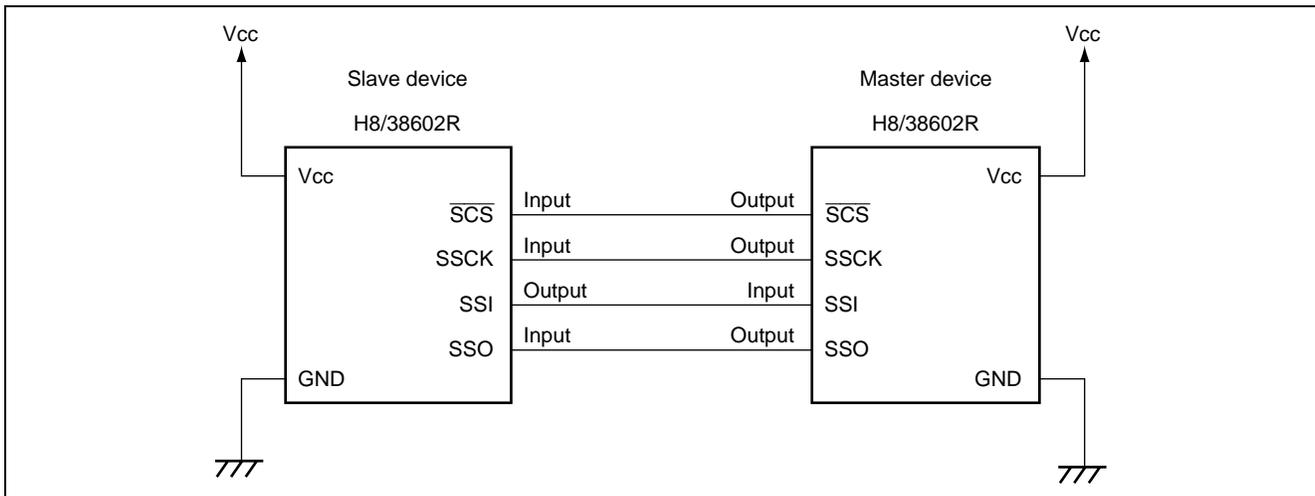

Figure 1 Connections in 4-Line Bus Communication Mode of SSU
- As shown in figure 1, the H8/38602R performs communication by the SSU in 4-line bus communication mode using various SSU interrupts.